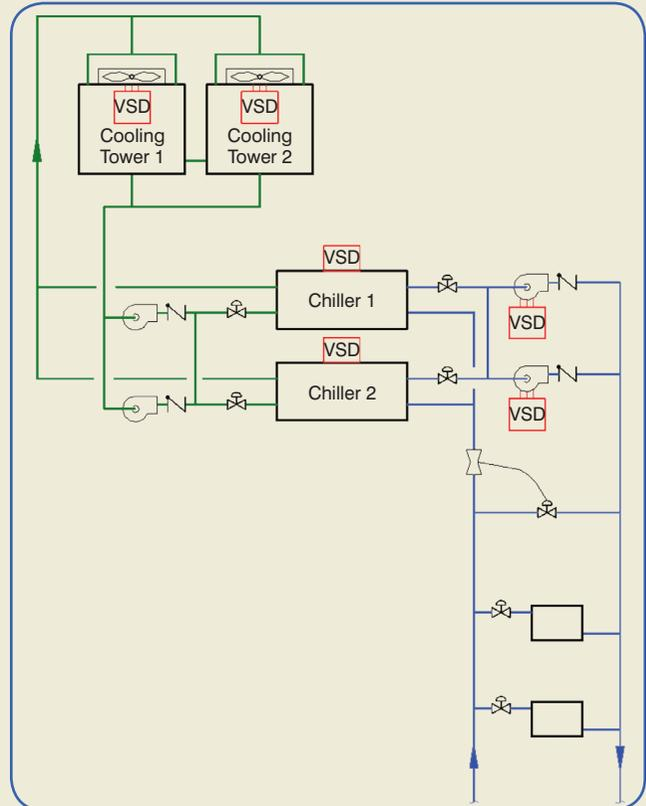
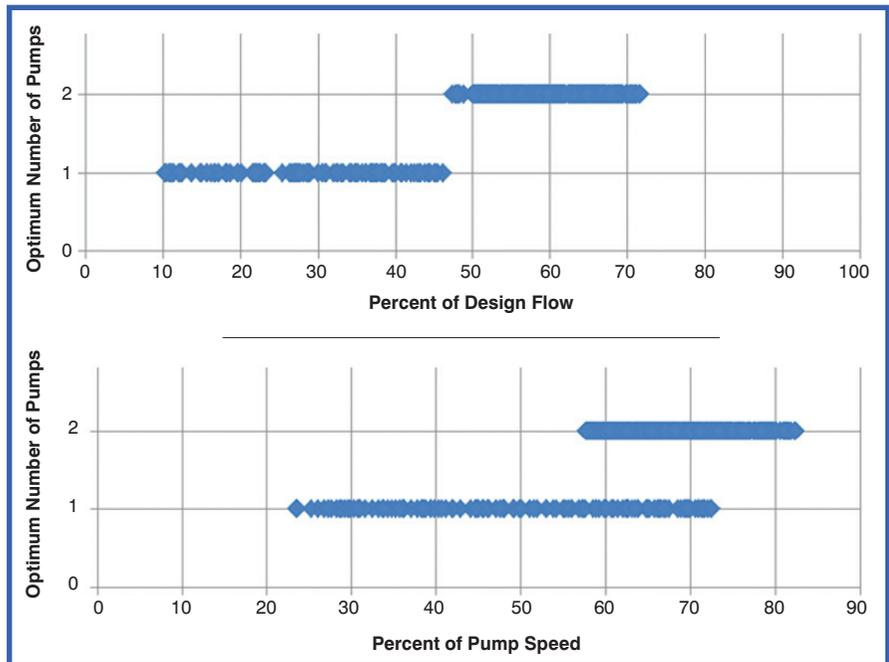

Figure 1: Typical chilled water plant schematic.
Figure 3: TOPP CHW pump staging vs. CHW flow ratio and pump speed.
Figure 1 is a typical primary-only variable flow chilled water plant. The plant has two of each major component (chillers, towers, condenser water pumps, and chilled water pumps) each sized for 50% of the load. This plant design is very common and was used as the basis of the simulations and optimization for this series of articles and the SDL course upon which it is based.
Note that the condenser water (CW) pumps in *Figure 1* do not have variable speed drives (VSDs). Sequences for variable speed CW pumps are also addressed in this article but, as discussed in Part 2¹ of this series and in more detail below, VSDs on condenser water
The plant in *Figure 1*, serving a typical office building, was modeled with all permutations of the following design variables:
Also note in *Figure 1* that the cooling towers do not include any isolation valves to shut off flow to allow one tower to operate alone. As discussed in Part 4² of this series, towers generally can be selected with nozzles and dams that allow half flow from one CW pump while still providing full coverage of fill and it is always most efficient to run as many tower cells as possible. So whether one or two CW pumps are operating, both tower cells are enabled and fans are controlled to the same speed.
TOPP modeling was performed for the chilled water plant shown in *Figure 1* for a wide range of plant design options for tower range, approach, and efficiency; different chiller types and chiller efficiency; and varying climates (see “Modeling the Plant,” Page 57). The operating modes (e.g., number of chillers, condenser water flow and pump speed, tower fan speed and related condenser water temperatures) that result in the TOPP for each plant design scenario were studied to see how they relate to independent variables such as plant load and weather (e.g., wet-bulb temperature) to find trends that can be used to control the plant in real applications through the direct digital control (DDC) system.
Ideally, equipment should be controlled as simply as possible; complex sequences are less likely to be sustained since operators are more likely to disable them at the first sign of perceived improper operation. The remainder of this article discusses the TOPP modeling and the generalized sequences that were developed from the analysis for the chilled water plant shown in *Figure 1* serving a typical office building.
Figure 3 shows the optimum number of CHW pumps as a function of CHW flow ratio and as a function of pump speed for the chilled water plant shown in *Figure 1* based on TOPP modeling. Unlike cooling towers, the optimum sequence is not to run as many pumps as possible. This is because the pumps all pump through the same circuit (other than the pipes into and out of the each pump between headers) so there are not “cube-law” energy benefits for each pump individually.
Figure 3 clearly indicates that staging pumps off of flow provides better optimization than staging off of pump speed.
As suggested by *Figure 3*, CHW pumps should be staged as a function of CHW flow ratio (CHWFR = actual flow divided by total plant design flow) at a staging point of 47%, i.e., one pump should operate when the CHWFR is below 47% and two pumps should operate when CHWFR is above 47%, with a time delay to prevent short cycling. The 47% optimum staging point assumes DP setpoint is reset by valve position; it will be somewhat higher at higher DP setpoints.